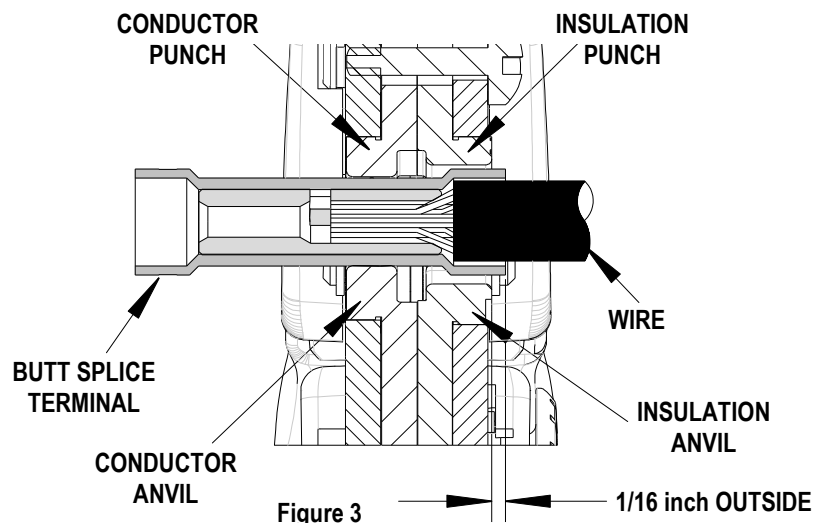

Figure 3
2. There is no locator when crimping these butt splice terminals. Splices must be visually aligned with the tooling flush or 1/16" outside the insulation crimp. See Figure 3. The splice should be approximately centered inside the tooling nests. See Figure 3. Cycle the tool.